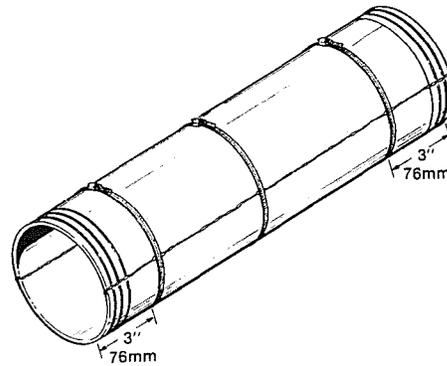

Figure 29. Fasten Two Additional Hose Clamps
7.16 Fasten an additional hose clamp 76 mm (3 inches) from each sleeve end. Since these hose clamps will not be moved, they must not interfere with the end caps. (Figure 29)